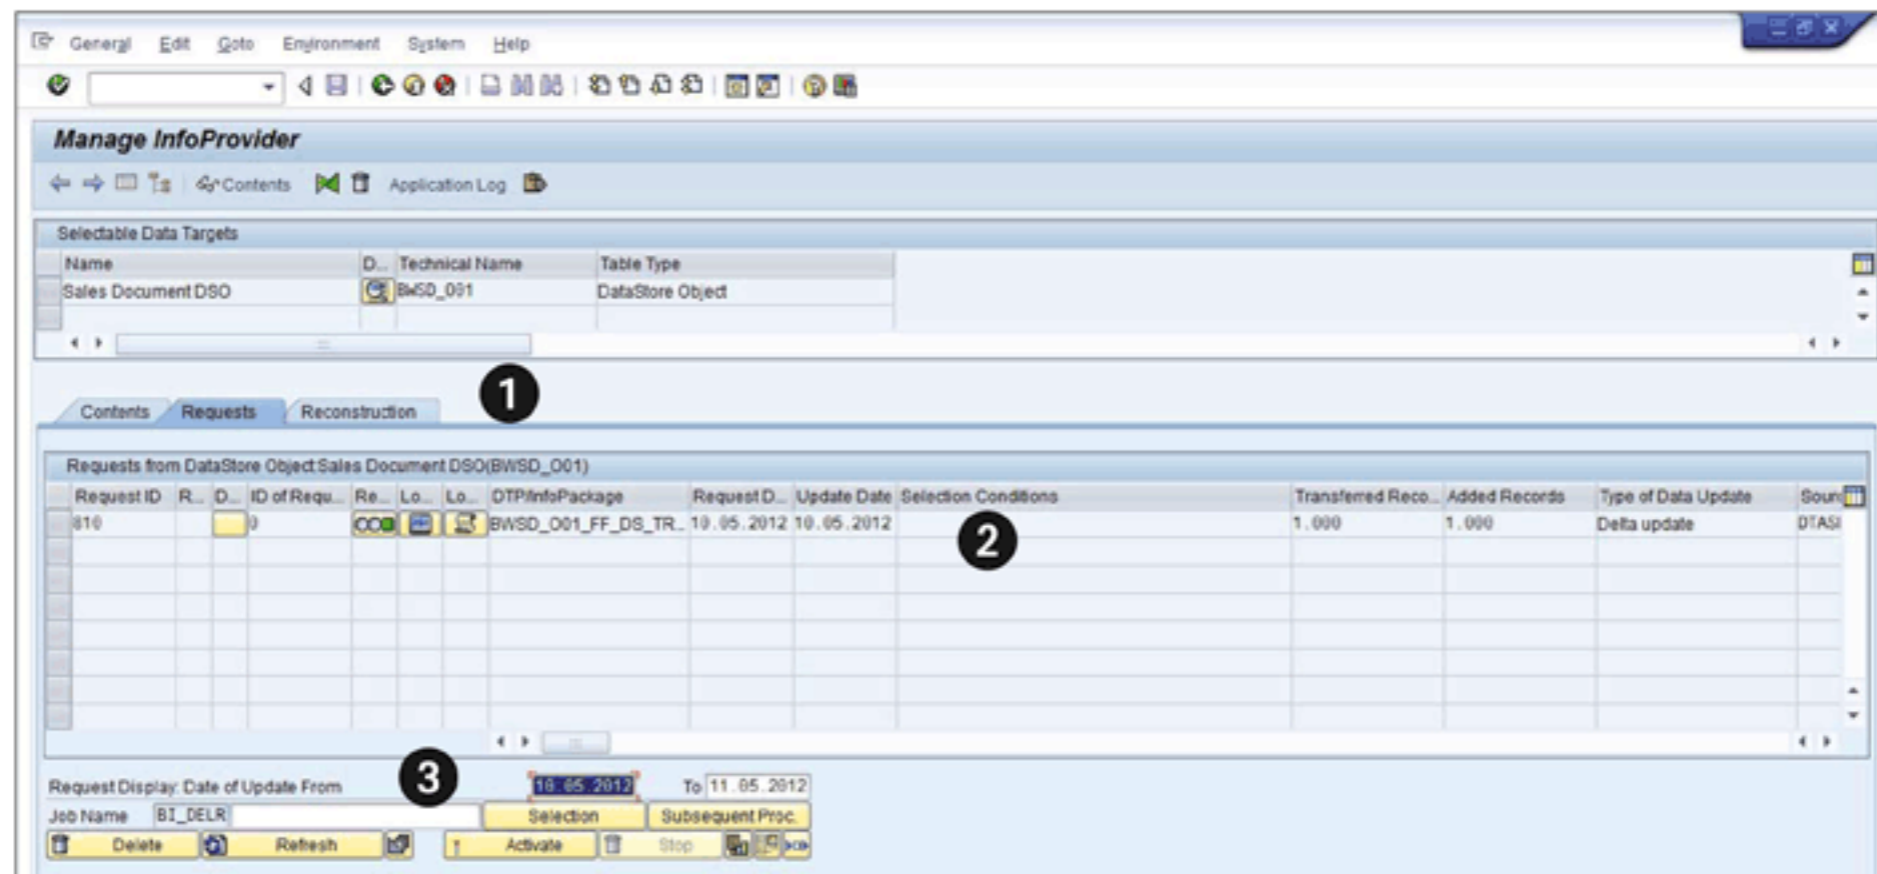

Figure 14.2 Administration Tasks for a DSO
Click on the MANAGE option in the context menu (2), and the INFOPROVIDER ADMINISTRATION screen appears (Figure 14.2). The upper part has the details of the InfoProvider, and the lower part has three tabs: CONTENTS, REQUESTS, and
RECONSTRUCTION (2 Figure 14.2). The lowest part of the screen in each tab has relevant options for executing administration and maintenance tasks (3).